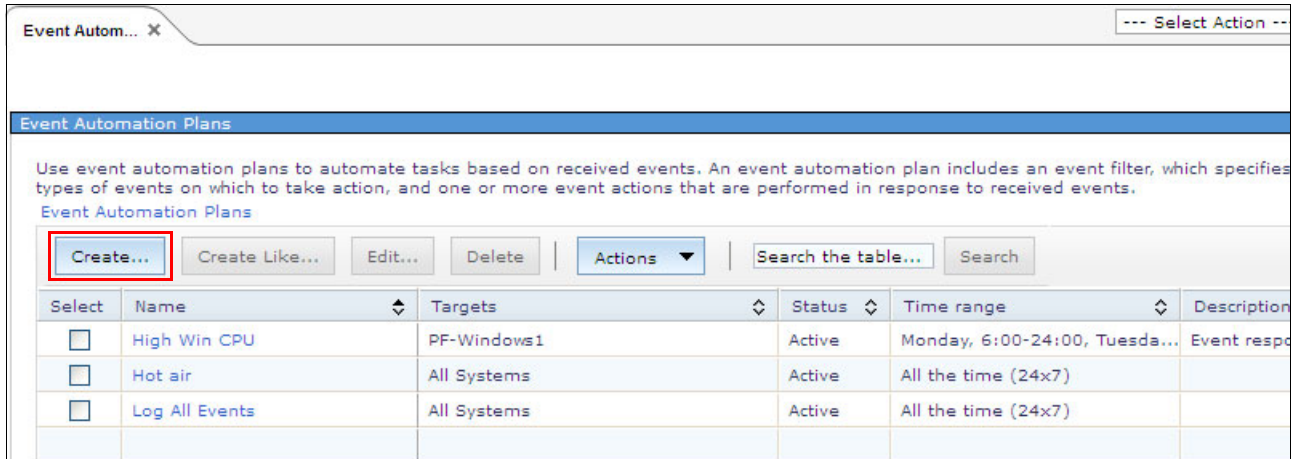

Figure 11-66 Event Automation Plans window
1. In the IBM Flex System Manager web interface navigation area, expand **Automation** and click **Event Automation Plans**, as shown in Figure 11-66. Click **Create** for a new automation plan.